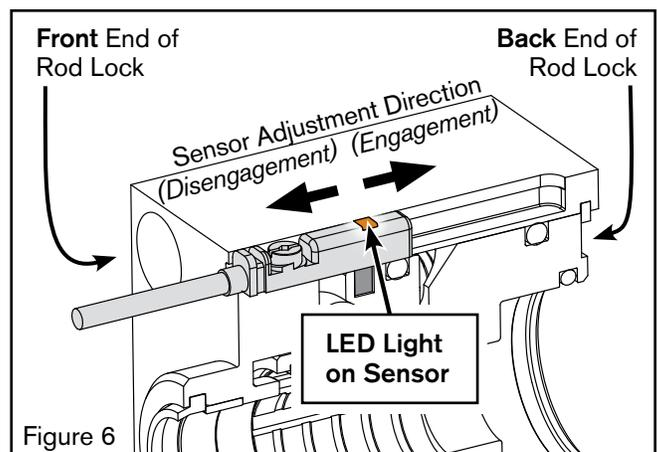

Figure 6
2. Install sensor as shown in **Figure 6**. Start with sensor positioned closest to the **back** of the rod lock, past the sensing target. Slide the sensor towards the **front** end of the rod lock until LED is lit. Once the LED is lit, move sensor a small amount further into sensing target.
2. Install sensor as shown in **Figure 6**. Start with sensor positioned closest to the **front** of the rod lock, before the sensing target is reached. Slide the sensor towards the **back** end of the rod lock until LED is lit. Once the LED is lit, move sensor a small amount further into sensing target.